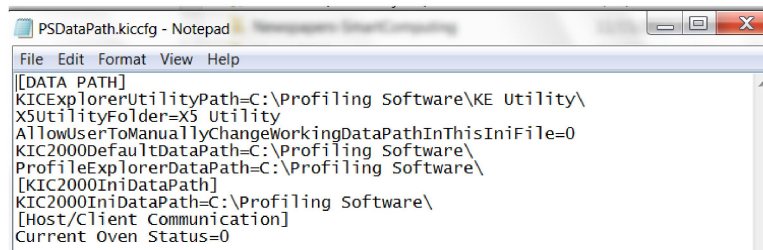

Figure 138
2. Double-click on the PSDataPath.kiccfg to open it in Notepad. See Figure 138: